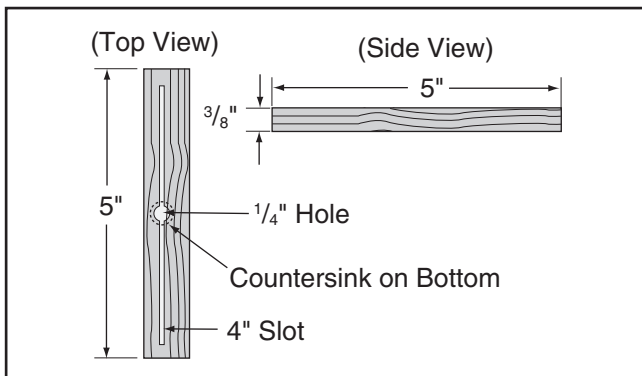

Figure 127. Miter bar pattern.
- Cut a miter bar that will fit in table miter slot approximately 5" long, as shown in **Figure 127**.